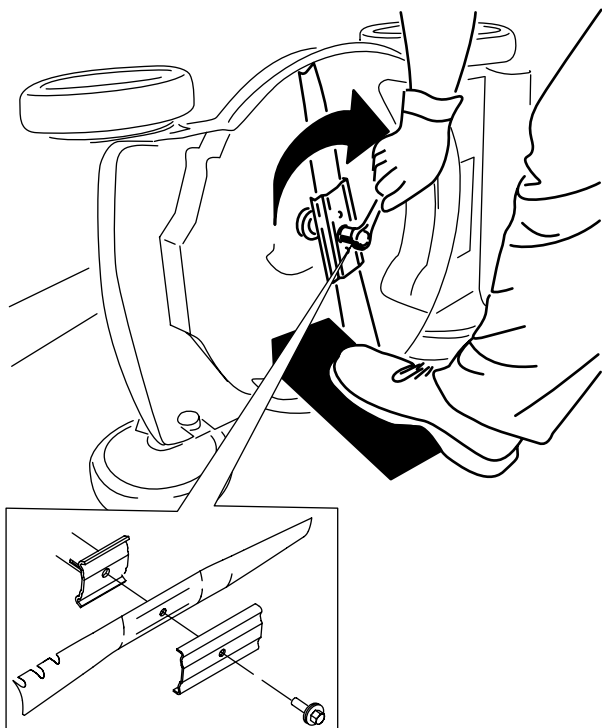

Figure 22
5. Install the new blade and all mounting hardware (Figure 22).